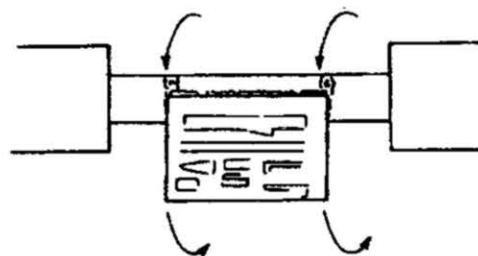

Fig. 8
**E** Spread contact cement all around the perimeter of the bottom side of one of the Large Body Panels. Wait 10 minutes, then wrap the Panel around the Ion Pump Tube, starting one edge of the Panel on the middle of the "strip" of cement on the tube (Fig. 8). Pull the panel tightly around the tube, and press the remaining edge of the panel firmly into (the other half of) the "strip" of cement.